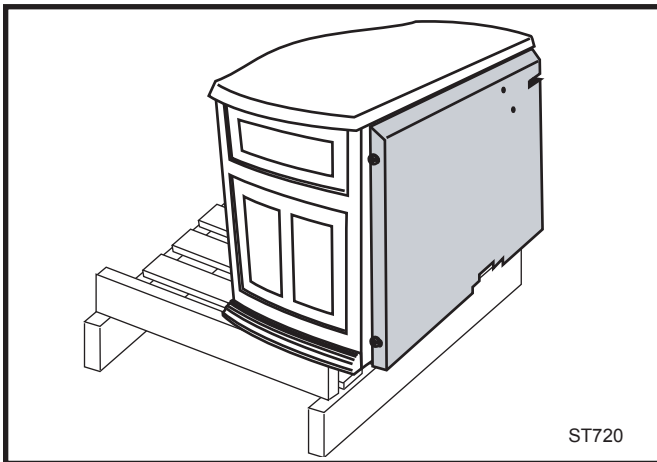

Fig. 6 Slide stove back just far enough to access rear leg holes.
- Slide stove to the rear of the pallet just far enough to access rear leg holes. Make sure the stove does not tip over backwards. (Fig. 6)